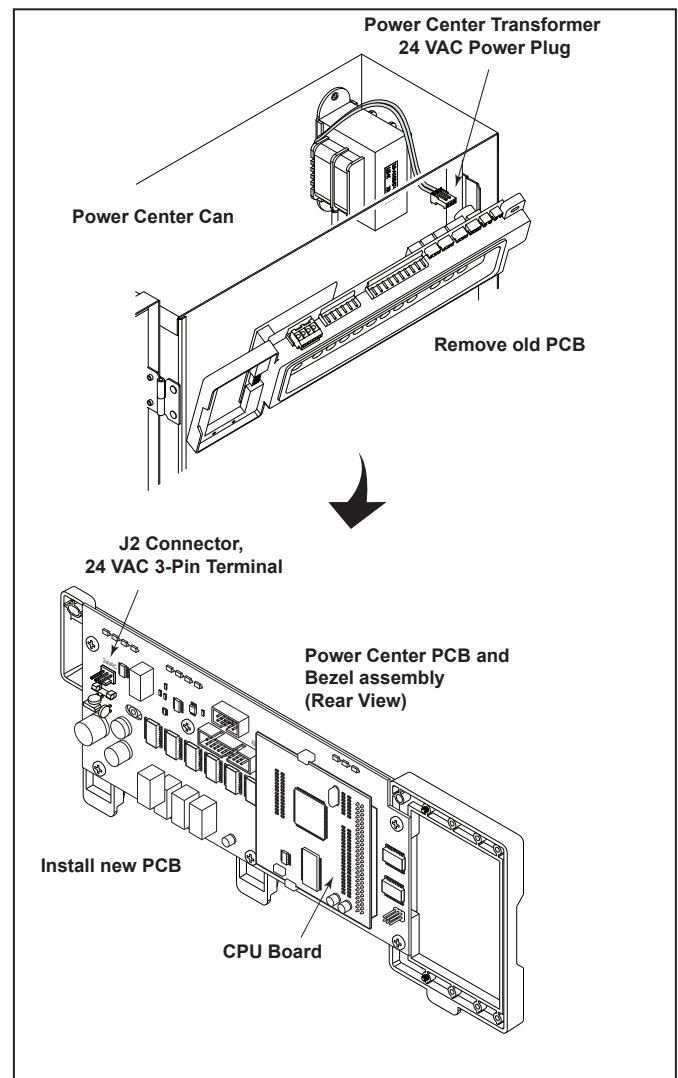

Figure 2. Replacement of Power Center PCB and the CPU Board Assembly
6. Unscrew and remove the power center PCB and bezel assembly from the power center. See Figure 2.
3. Unplug the power center transformer 24 VAC power plug from the 24 VAC 3-pin terminal on the power center PCB and bezel assembly as shown in Figure 2.